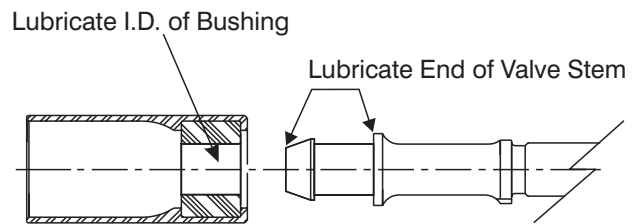

Figure 9-5. Lubricate Bushing and Valve Stem.
6. Refer to Figure 9-5, and lubricate: